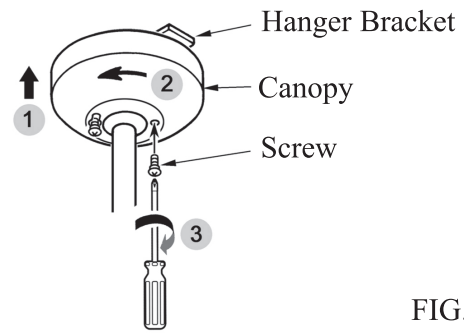

FIG.11
4. Mount the canopy on the hanger bracket and tighten the screws. (See fig.11)